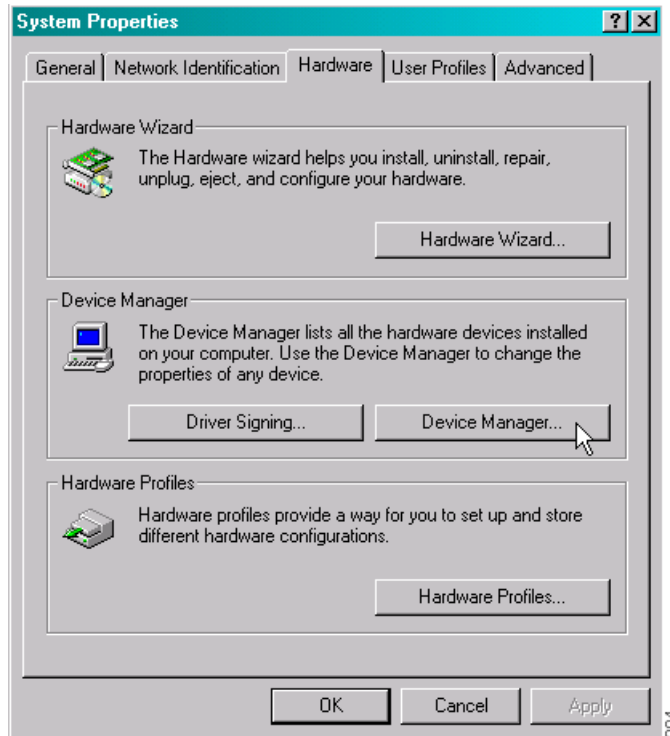

Figure 4. Device manager tab in Windows 2000.
- 9 – In Windows 2000 and Windows XP, in *System properties* window, select the "Hardware" tab and then click the "Device Manager" button, see figure 4 below.